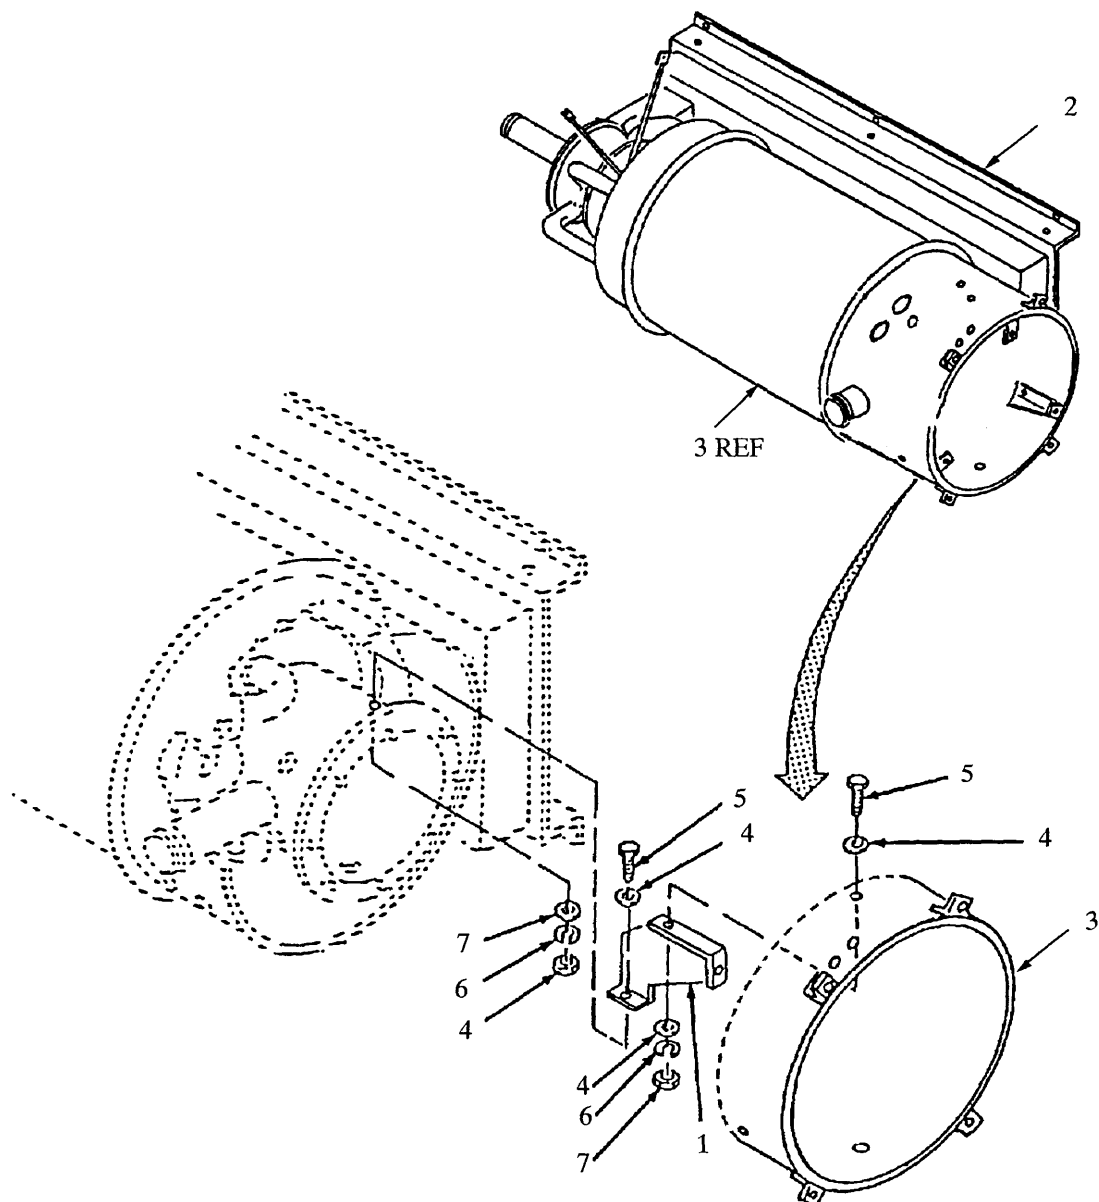

Figure 5-17.1. Heat Exchanger, (Model H120-1) Assembly
e. Assembly - continued (Refer to Figure 5-17.1)
- (5) Install three brackets (1) between heat exchanger (2), heat exchanger shell (3) and secure each with four flat washers (4), two screws (5), two lockwashers (6) and two nuts (7).